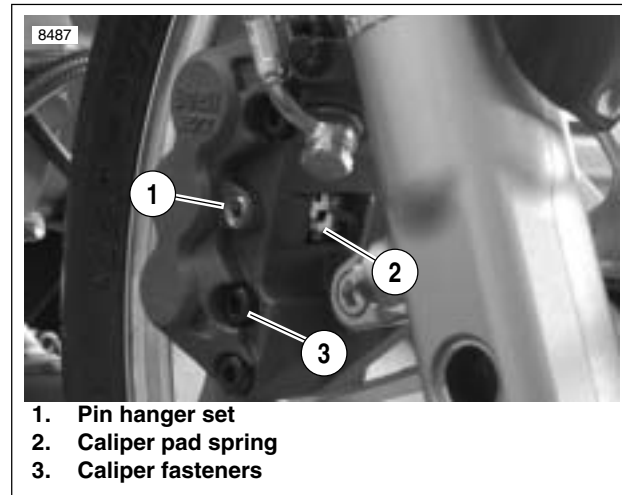

Figure 2-45. Pad Spring (Typical)
1. See Figure 2-45. Remove pin hanger set (1), caliper pad spring (2) and brake pads.